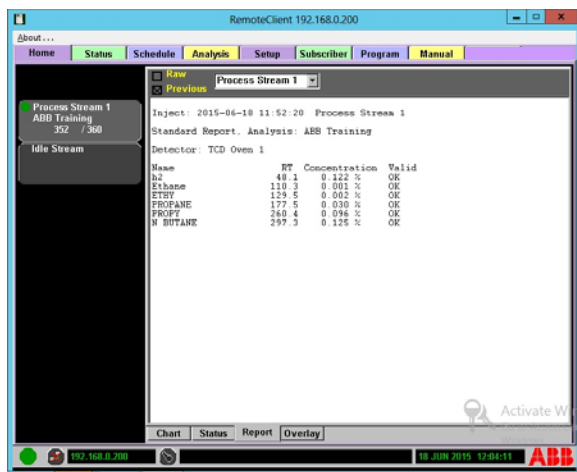

Fig. 6.5. Standard Report Format
1. The standard report (see Figure 6.5) displays inject time, sample stream, analysis name, report type, detector, component Name / Retention Time / Concentration and validity of the component.